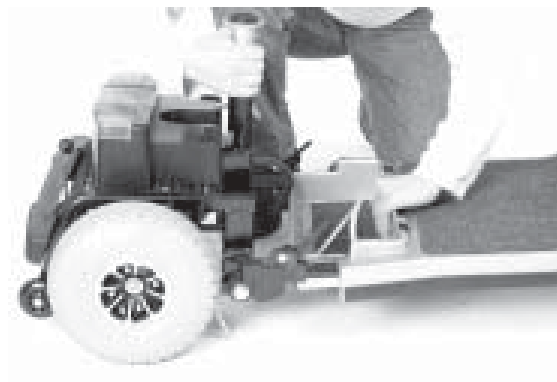

FIGURE 25. SEPARATING THE FRAME SECTIONS
11. Place one hand on the seat post tower, one hand on the front frame handle and gently slide the front and rear sections apart. See figure 25.
2. Position the front and rear sections of your Scooter as shown in figure 25.